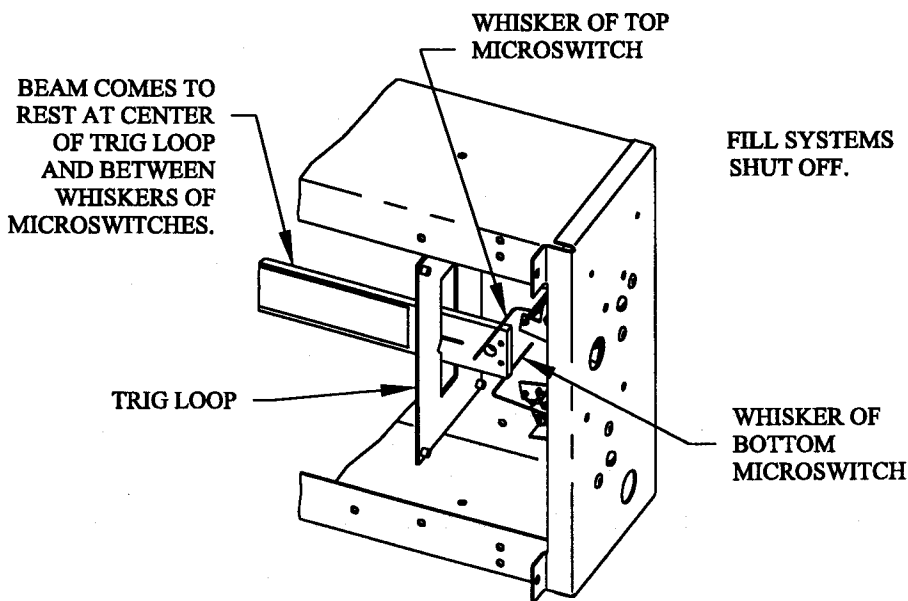

Fig. 4
STEP 4. The feed lines will come on at the time set on the clock. The level switches in the feed line hoppers will control the fill system motors on and off until the beam reaches the center of the trig loop (or comes to rest between microswitches) shutting off the fill systems completely. See Fig. 4.